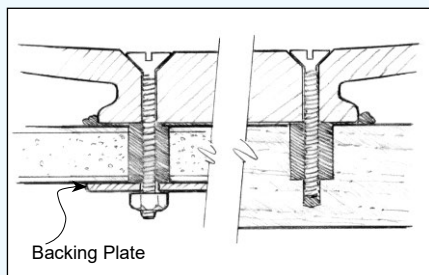

Figure 18 Tighten the fasteners until a small amount of epoxy squeezes from the joint.
5. Place the hardware in position. Insert and tighten fasteners until a small quantity of mix squeezes out of the joint (*Figure 18*).